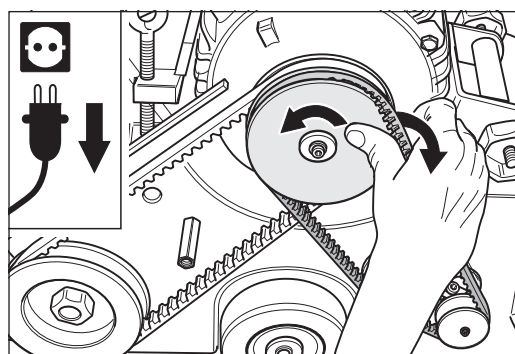

Fig. 27 Remove the fan V-belt.
- 6 Remove the small V-belt by turning the motor pulley and peeling the belt off at the same time (Fig. 27).